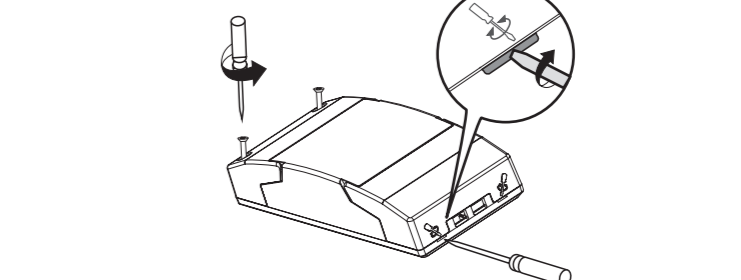

FIG.13
3.4.3 Feed cables through the ceiling and refer to wiring diagram to connect cables, then insert power box into ceiling through the drilled hole (See FIG.13).